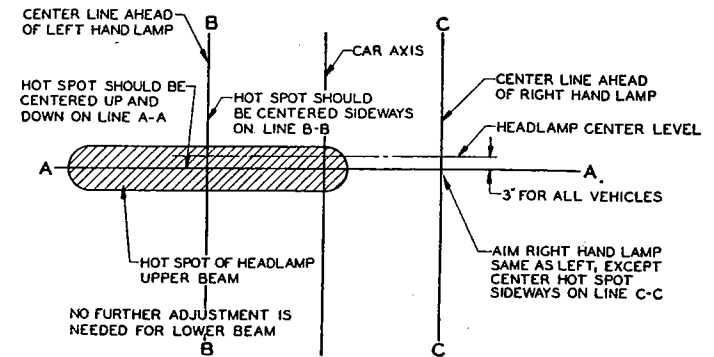

Fig. 30—Left Lamp is Correctly Aimed When Hot Spot is Centered on Lines "A-A" and "B-B" as Shown
**Headlamp Aiming**—For best road lighting results the aiming screen should be arranged as follows: Measure the height of lamp centers above floor level and stretch a ribbon or mark a line across the screen at the level of a point 3" below the headlamp centers. If your state requires a loading allowance draw this horizontal line "A-A", Fig. 30, below the above mentioned line, by the amount required by your particular state. Locate center of car on screen by sighting past left edge of rear window divider strip and left edge of windshield divider then past the right edges of each, the point midway between these two being the vertical center line which should be temporarily indicated on the screen. Measure the distance between the centers of the lamps then place vertical ribbon marks or draw vertical lines "B-B" and "C-C", Fig. 30, at half this distance on either side of the center line.